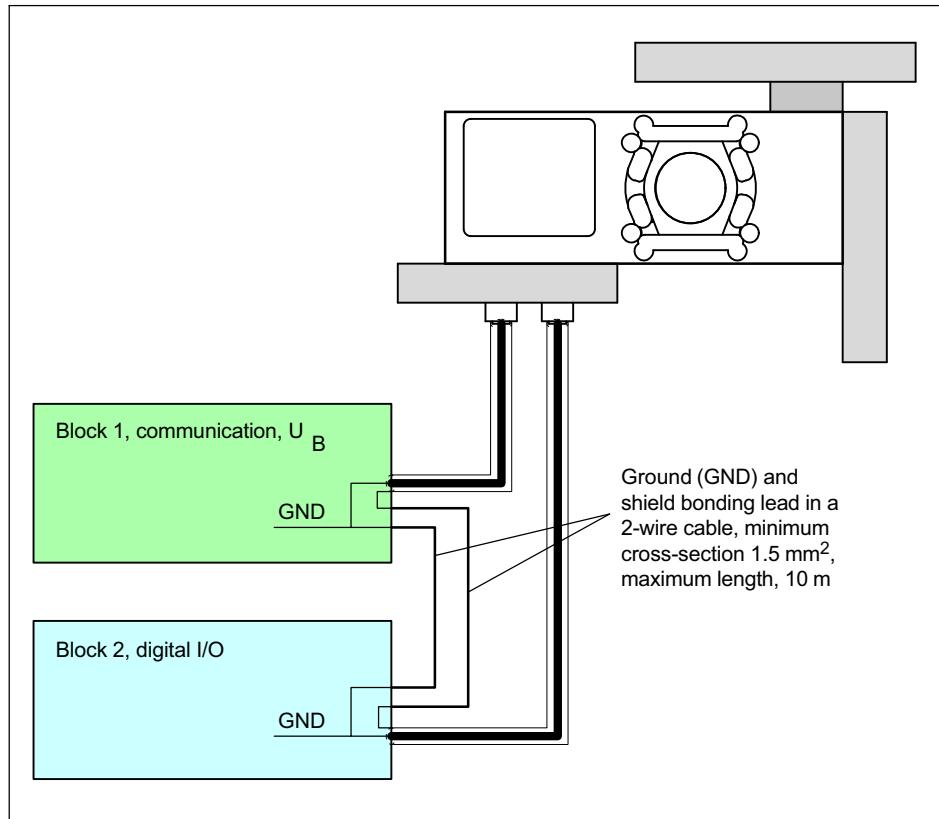

Fig. 7.1 Connecting GND potentials in separate function blocks
1. The arrangement of the function blocks, i.e. the digital part for the switch outputs and the part for supplying with operating voltage and the interface, is physically separate (Fig. 7.1).
In the first case, make sure that the shields of both leads, as well as the GND potential, are each connected with a wire with a minimum cross-section of 1.5 mm². Both multipole and individual leads are suitable for this. However, the individual leads must not take different routes, they must be close together. The total length of a conductor must not exceed 10 m (Fig. 7.1).